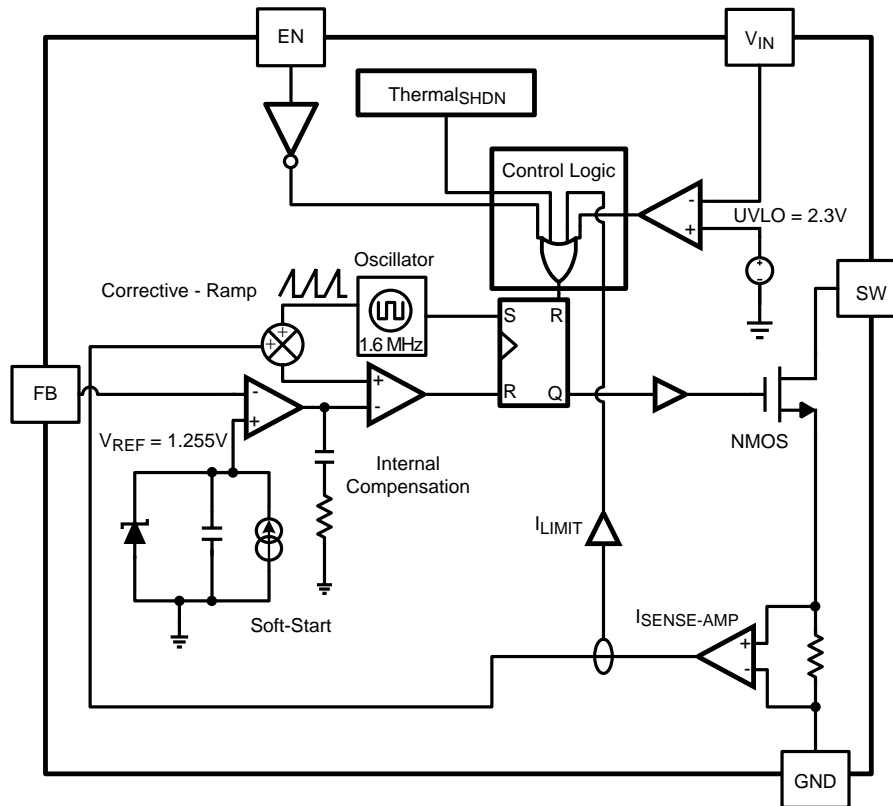
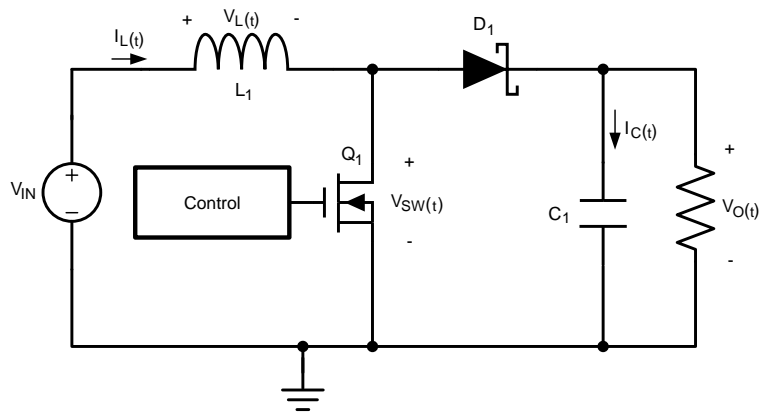
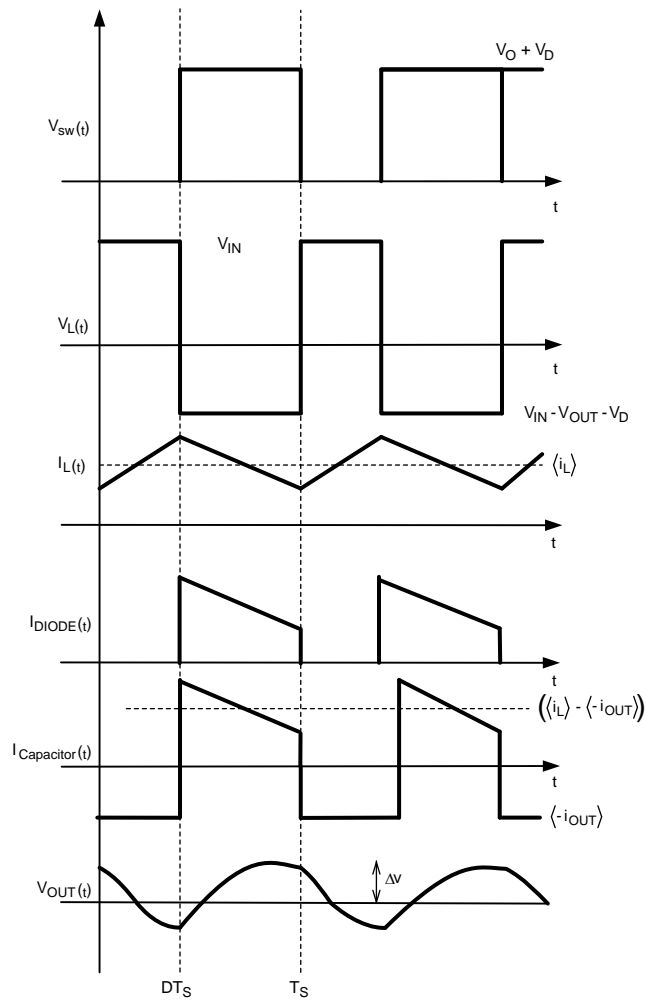

Figure 18. Simplified Block Diagram
Figure 19. Simplified Schematic
Figure 20. Typical Waveforms
The LM2735 is a constant frequency PWM boost regulator IC that delivers a minimum of 2.1A peak switch current. The regulator has a preset switching frequency of either 520 kHz or 1.60 MHz. This high frequency allows the LM2735 to operate with small surface mount capacitors and inductors, resulting in a DC/DC converter that requires a minimum amount of board space. The LM2735 is internally compensated, so it is simple to use, and requires few external components. The LM2735 uses current-mode control to regulate the output voltage. The following operating description of the LM2735 will refer to the Simplified Internal Block Diagram (Figure 18) the simplified schematic (Figure 19), and its associated waveforms (Figure 20). The LM2735 supplies a regulated output voltage by switching the internal NMOS control switch at constant frequency and variable duty cycle. A switching cycle begins at the falling edge of the reset pulse generated by the internal oscillator. When this pulse goes low, the output control logic turns on the internal NMOS control switch. During this on-time, the SW pin voltage ( $V_{SW}$ ) decreases to approximately GND, and the inductor current ( $I_L$ ) increases with a linear slope.  $I_L$  is measured by the current sense amplifier, which generates an output proportional to the switch current. The sensed signal is summed with the regulator's corrective ramp and compared to the error amplifier's output, which is proportional to the difference between the feedback voltage and  $V_{REF}$ . When the PWM comparator output goes high, the output switch turns off until the next switching cycle begins. During the switch off-time, inductor current discharges through diode D1, which forces the SW pin to swing to the output voltage plus the forward voltage ( $V_D$ ) of the diode. The regulator loop adjusts the duty cycle (D) to maintain a constant output voltage .